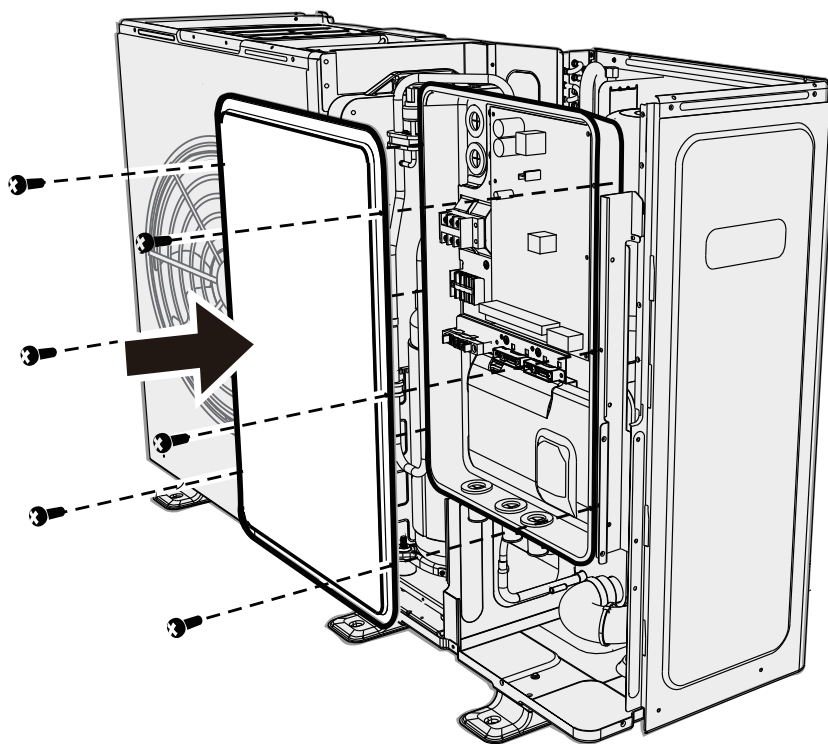

Figure 2. HP290 Monobloc (Access to Outdoor Control PCB)
2. Gain access to the HP290 Monobloc Outdoor Control PCB (see Figure 2). Remove and keep the PCB cover retaining screws and remove the cover.